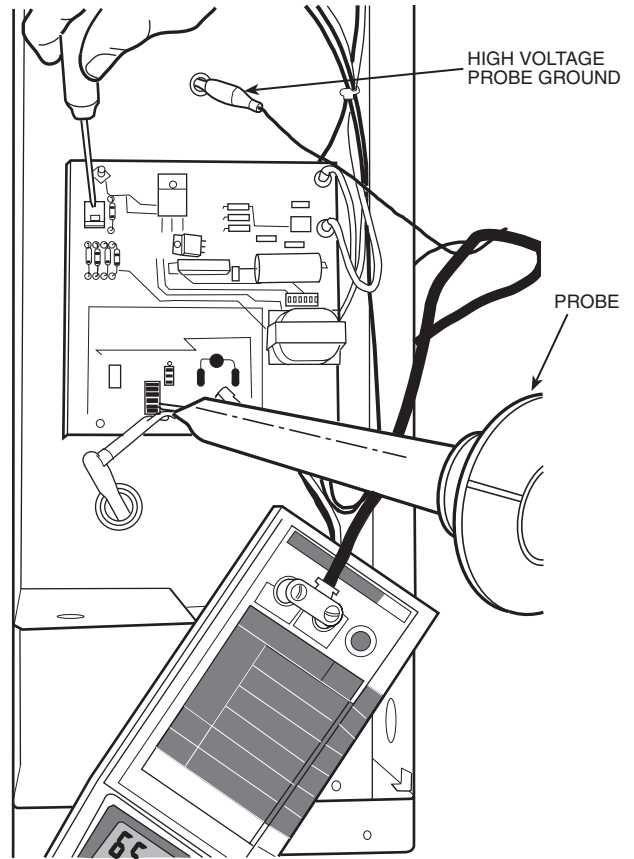

Fig. 6 — Testing Voltage at Power Board
5. Measure the voltages at HV1 and HV2 (where applicable) on the power board. See Fig. 6.